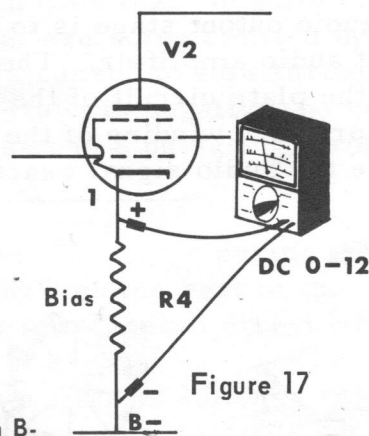

Figure 17
- 5 Adjust a VOM to the 0-12 volt DC range. Connect the positive (+) meter lead to the cathode, pin 1, of the 50C5 tube. Connect the negative (-) meter lead to the common B-. See Figure 17.